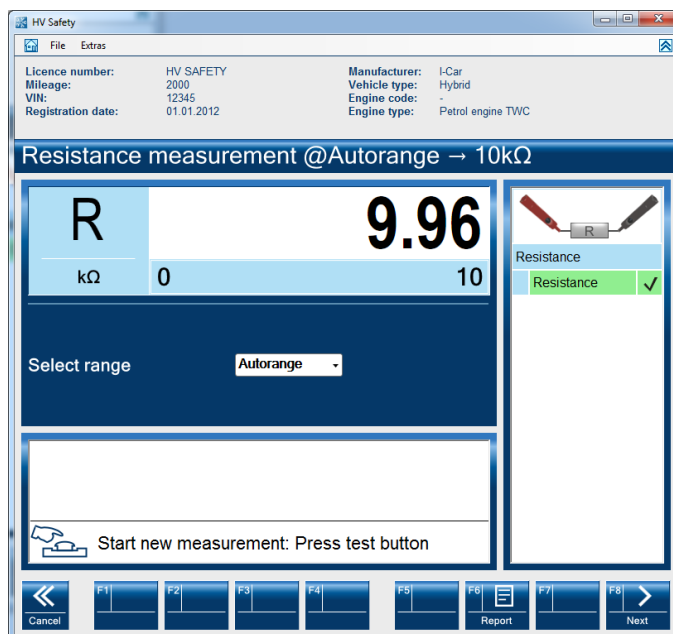

Fig. 3-6
6. The result of the measurement is displayed, see Fig. 3-6.